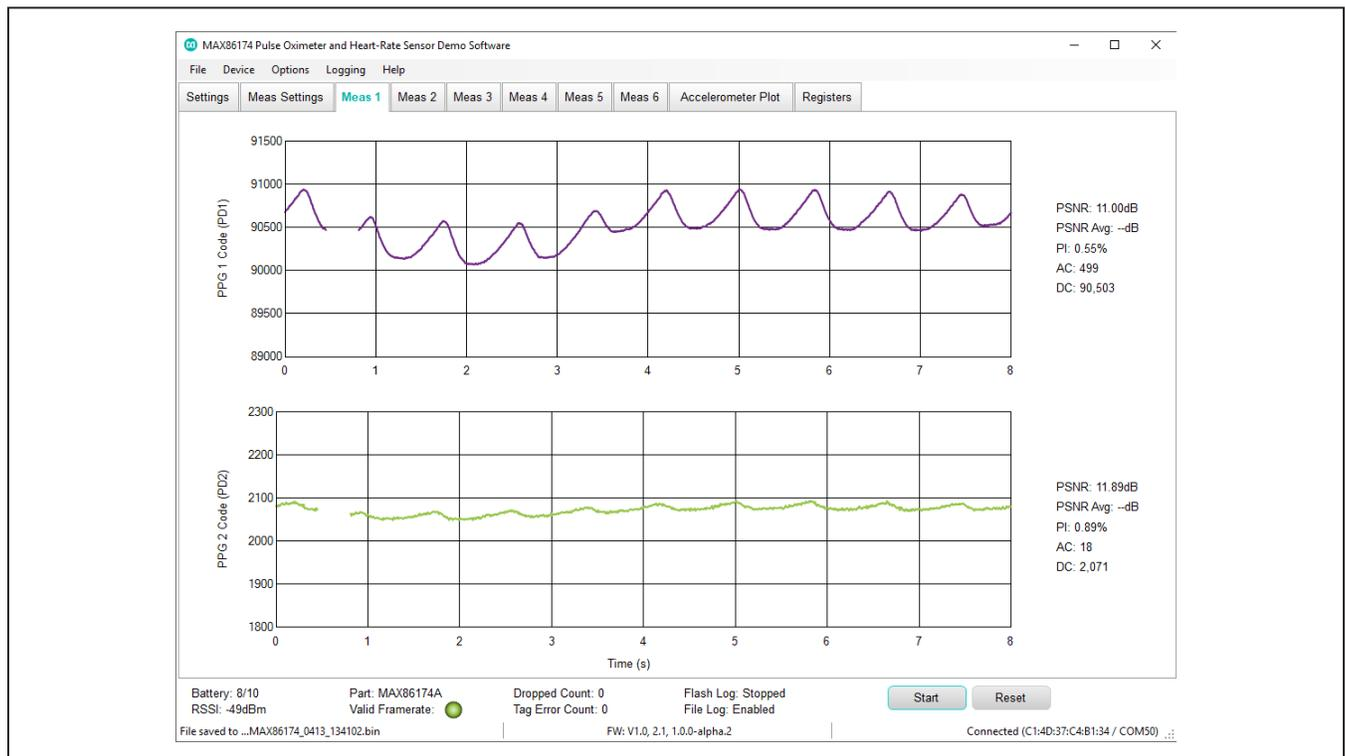

Figure 1. Plot of PPG
- 7) Click the **Start** button on the bottom right to start data acquisition. When running, the plots on the GUI should stream with data. Figure 1 shows an example of a plot with PPG measurements enabled.